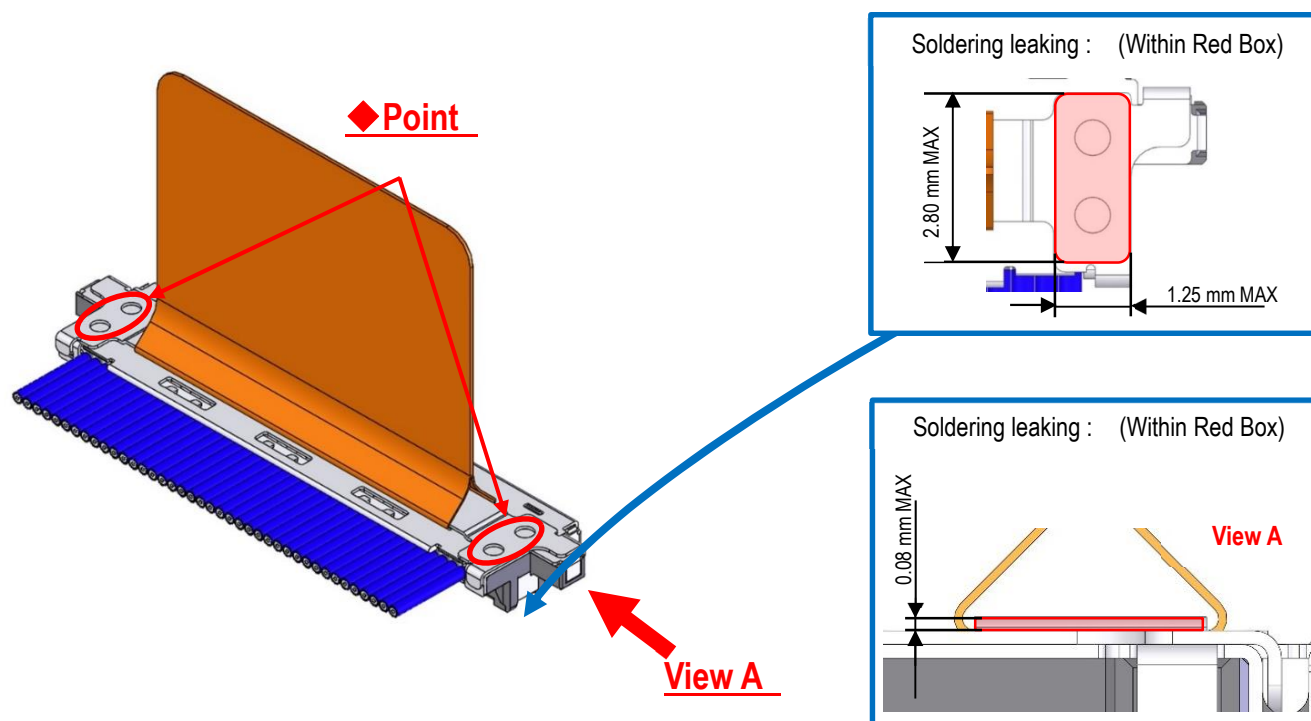

Fig.13 Soldering of Pull Tape Holder
- ③ Use soldering iron to solder pull tape holder and Shell-A. (Fig.13◆Point)